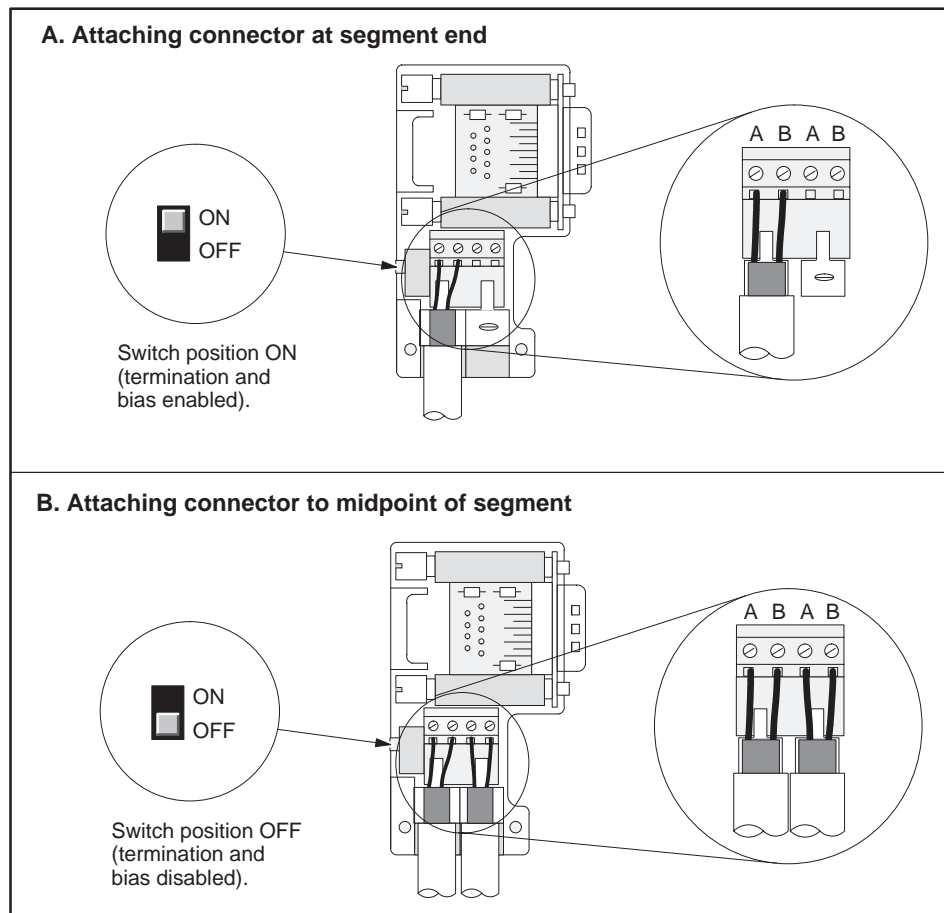

Figure 3-10 Attaching Connector and Selecting Termination
7. Set the termination switch to the correct position. See Figure 3-10.